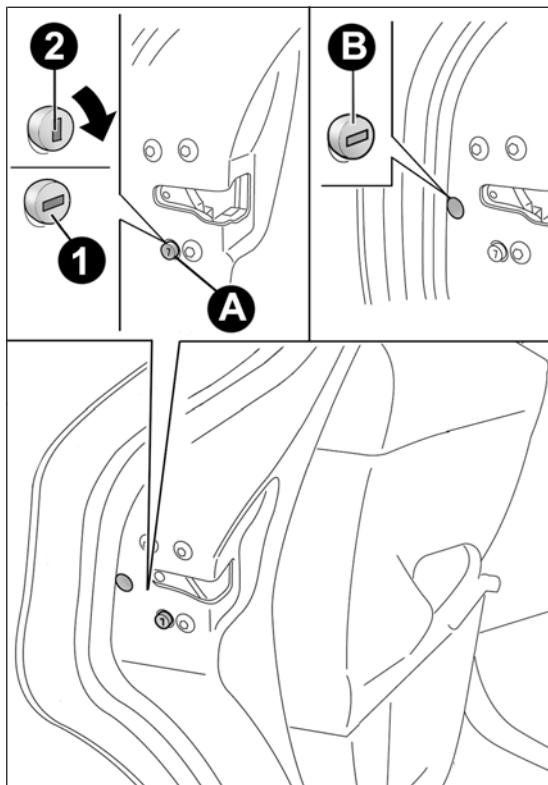

fig. 67
Device A fig. 67 can only be engaged with the doors open:
- insert the metal insert of the ignition key into housing B fig. 67;